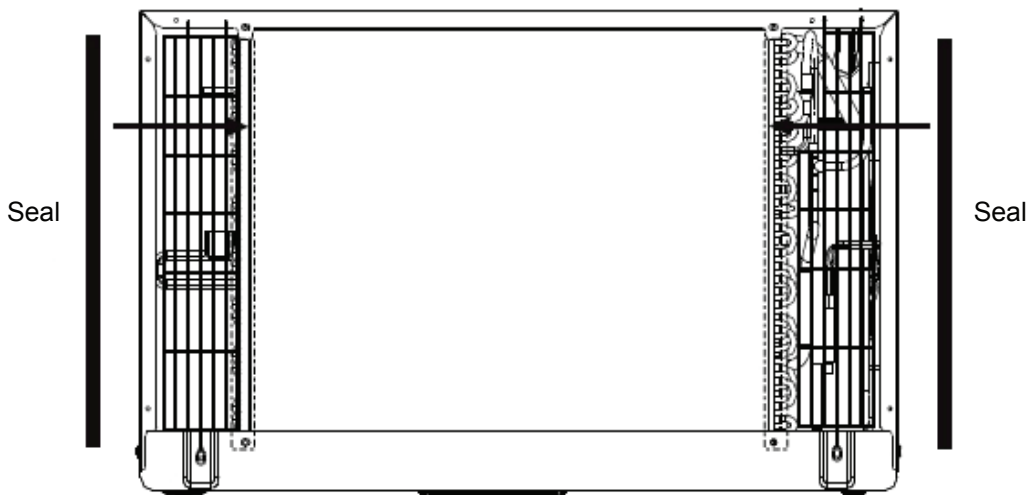

Fig. 1
1. Attach the 2 seal pieces (1" x 3/8" x 14") as shown in Fig. 1.